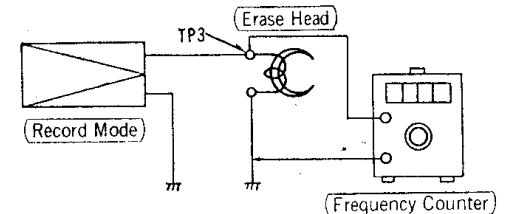

Figure 7
*Erase current.* Connect VTVM to test point TP3 (Figure 7). Select "RECORD". Check that meter reading is not less than 13V (15V for CRO2 tape).